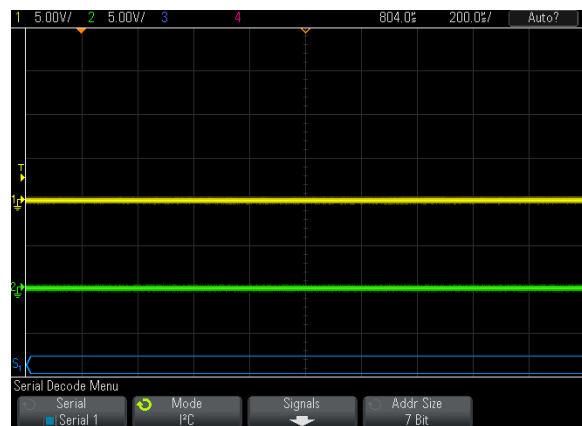

Figure 4: Keysight serial mode set for I²C
8. The label for the second softkey from the left shows the current protocol selection for the bus. If it doesn’t say “I²C”, press the softkey below the label to bring up a vertical menu for selecting the protocol type. Using the knob with the illuminated green arrow just to the right of the screen, select the “I²C” setting for Serial 1 as shown in Fig. 4.